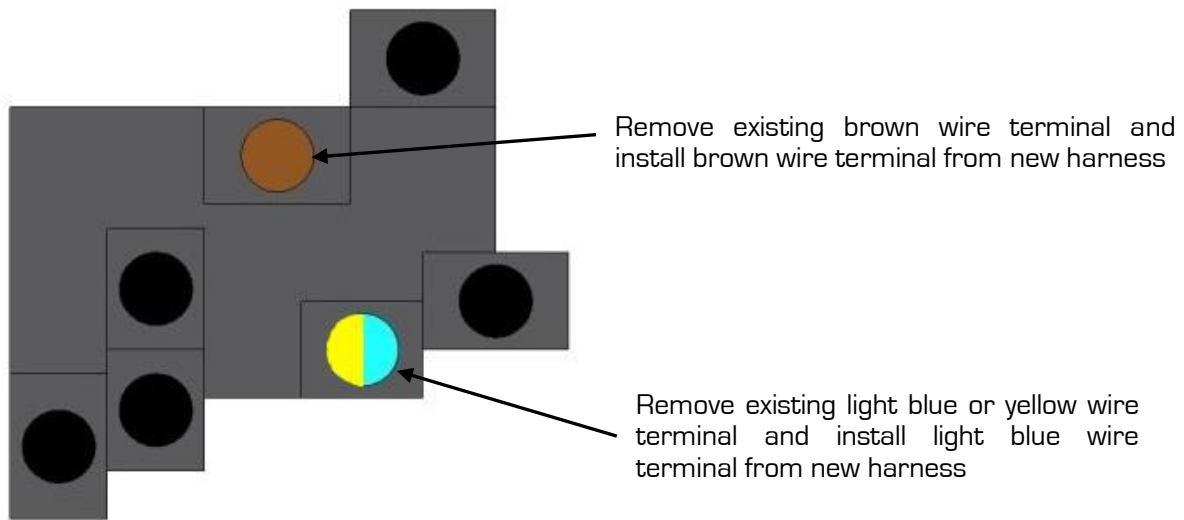

Figure 29 – End View (Harness Side)
31. The light blue or yellow wire is the 12-volt headlamp feed and the brown wire is the park lamp feed. There may be more than one brown wire in the connector so be sure to remove the correct one (Figure 29 on the next page).